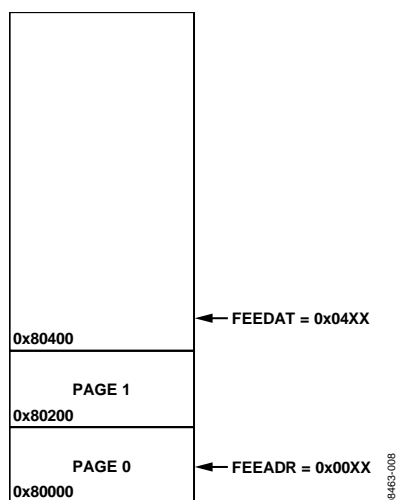

Figure 7. Signature Command Indexing
- FEEDAT contains an address situated in the first half page above the last page of the section to be signed. See Figure 7 in this example, Page 0 and Page 1 are signed.